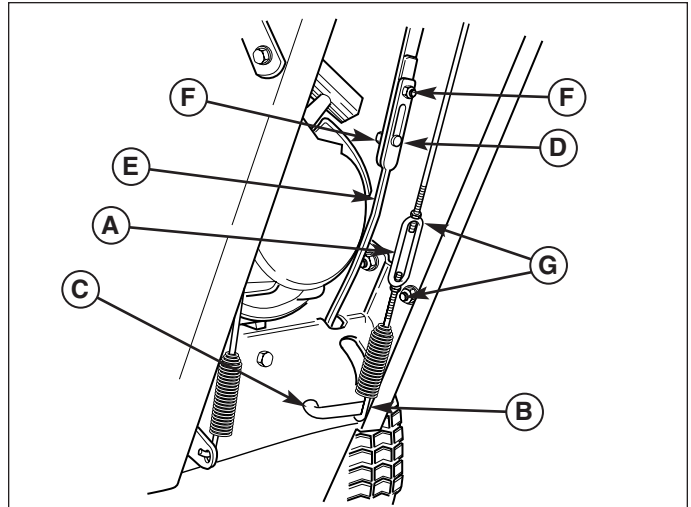

Figure 13. Speed Selector and Broom Drive Linkages
1. Loosen the two nuts (F, Figure 13).
3. Push the lower rod into the housing and tighten the two nuts. Do not lift up or down on rods while tightening. Make sure the shoulders of the carriage bolts (D) are in the slots.
1. With the drive lever released, the hook (B, Figure 13) should barely touch the lever (C) without raising it. There can be a maximum 1/32" clearance as shown.
2. To adjust, loosen the two nuts (G) and hold the lower rod to keep from rotating. Turn the turnbuckle toward the right to lower the spring, or toward the left to raise the spring.